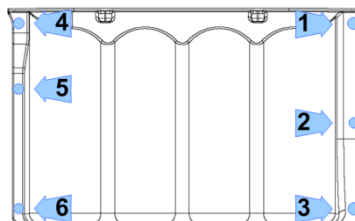

Figure 31 – Capacitor Cover Torque Sequence
- Place the Capacitor Cover and secure it with the long screw (M5 x 20) and flat washer in position number three (3) as shown in the following figure. Use five (5) remaining screws to secure the cover. Fasten according to the sequence in Figure 31 (Capacitor Cover Torque Sequence). Follow the sequence twice.